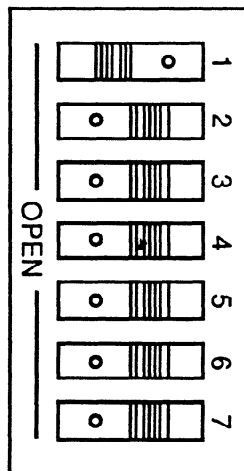

Figure 3.12 BACKPLANE DIP SWITCH SETTING FOR RUNNING AT DPU WINDOW
2. Set the backplane DIP switch for Inputs 1009-1016 to be addressed (7E hexadecimal). (Switch 1 CLOSED, all other switches OPEN -- Refer to Figure 3.12)